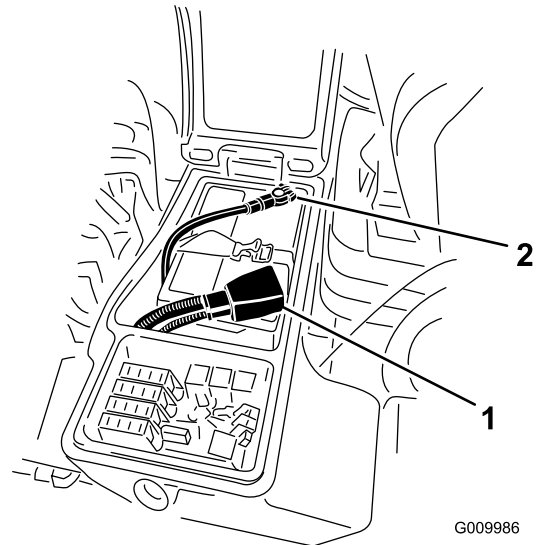

Figure 75
3. Remove the negative cable (black) from the negative (-) terminal and the positive cable (red) from the positive (+) terminal of the battery (Figure 75).
6. Install the positive cable (red) to the positive (+) terminal and the negative cable (black) to the negative (-) terminal of the battery (Figure 75).